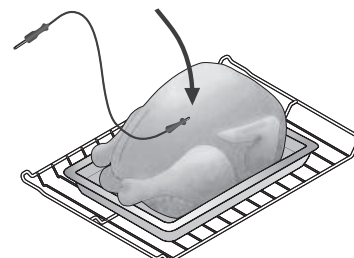

Figure 33: Probe in thickest part of breast
- For whole poultry or turkey, fully insert the probe sensor into the thickest part of the breast (See Figure 33).